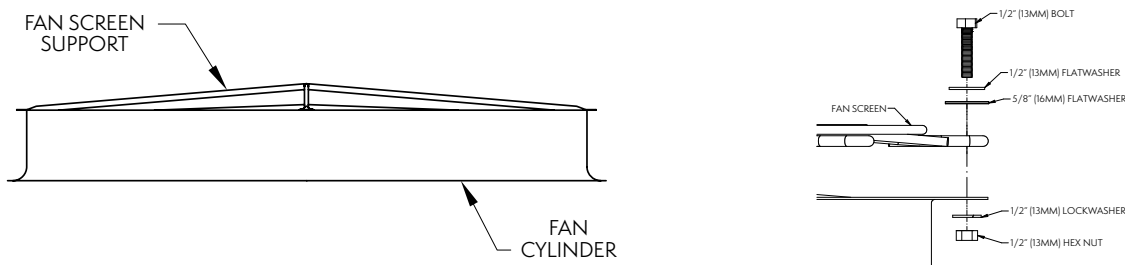

Figure 10 — Fan Screen Support & Fan Screen Installation
1. Set the fan screen support across the top of the fan cylinder as shown in **Figure 10**.
4. At each hole, attach the fan screen to the fan cylinder as shown in **Figure 10**.